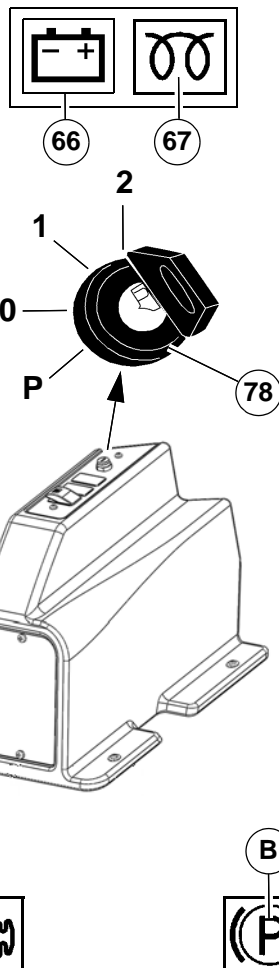

Fig. 39:
- If the engine oil pressure symbol **Fig. 39-A** in the multifunctional display lights up with the engine running, there is a risk of engine damage! Stop the vehicle in the safe range. Turn the engine off immediately and check the oil level. Have the cause of the inadequate engine oil pressure removed.
- The parking brake warning symbol **Fig. 39-B** in the multifunctional display may light up.